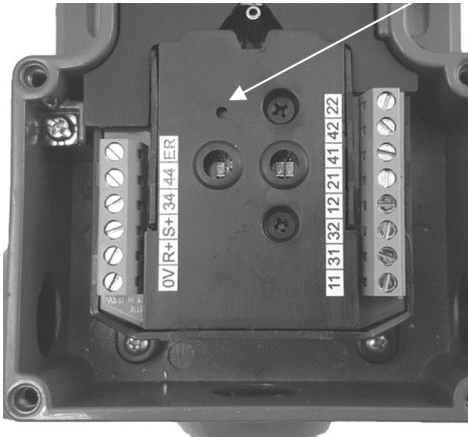

Figure 1. Switch cover removed.
### If using INTERNAL RESET BUTTON (see Figure 1.)
- 3) Using a 2mm terminal screwdriver hold down the RESET button inside the switch housing and turn on the switch power (see Figure.1).